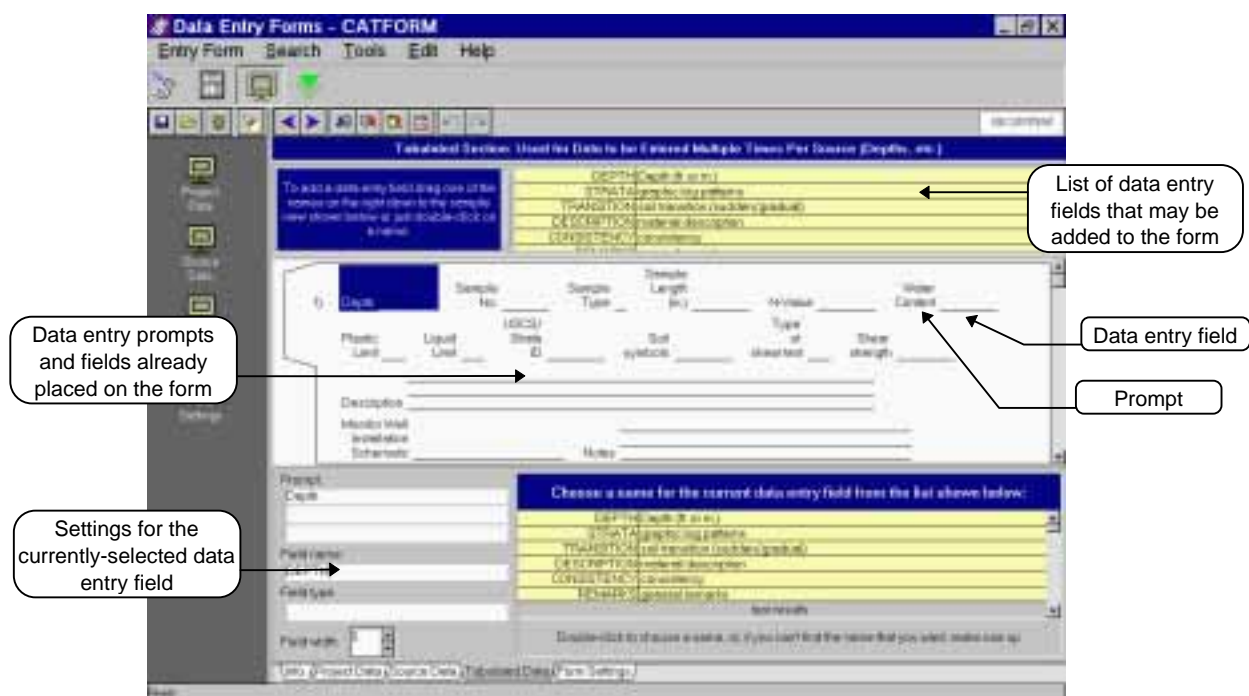

Figure 1.4 -- Tabulated Data Modification Screen
3. In the list of data entry fields that may be added to the form (this is the yellow box shown in the upper-right corner of the screen), locate the field that you want to add, click the left mouse button on it then, *while holding the mouse button down*, drag the mouse over the section of the screen that shows the data entry prompts and fields already placed on the form (see Figure 1.4).
3. In the section of the screen that shows the data entry prompts and fields already placed on the form (see Figure 1.4), move the mouse cursor over the field that you want to modify then click the left mouse button.
1. In the section of the screen that shows the data entry prompts and fields already placed on the form (see Figure 1.4), move the mouse cursor over the field that you want to modify then click the left mouse button.